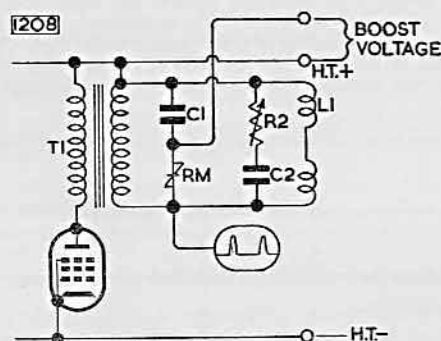

Fig. 5—Method of obtaining the first anode potential from the line deflector coils.
6. By rectifying a part of the voltage which appears across the line coil or at the tap on the line transformer. Metrosil is frequently employed for this purpose (see Figure 5).